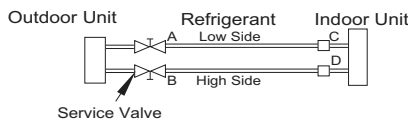

Fig. 16 — Service Valve
1. Completely tighten flare nuts A, B, C, D, connect the manifold gage charge hose to a charge port of the low side service valve (see Fig. 16).